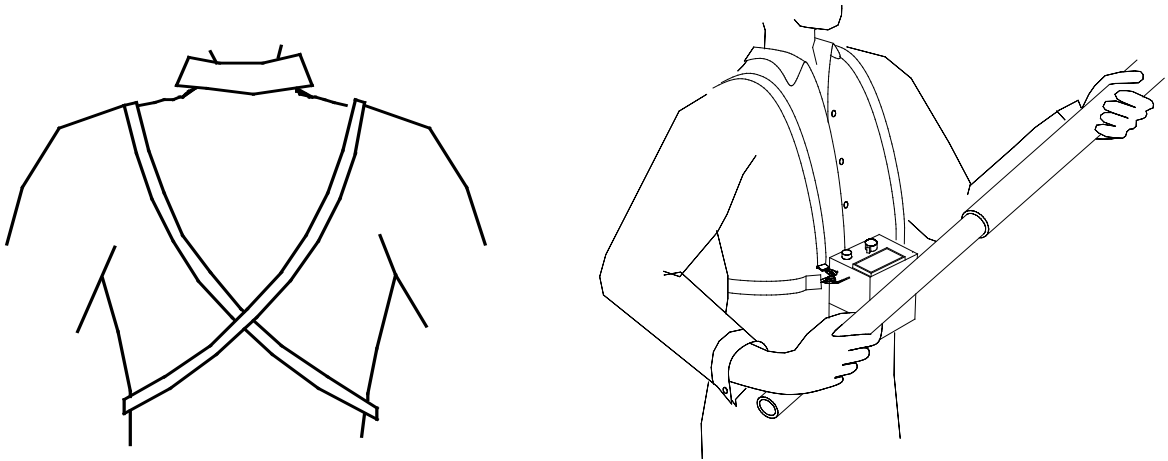

Figure 6.1
- a. Clip the carrying strap to the meter. One strap or both straps may be used. Figure 6.1 illustrates how both are used to provide the most comfort and least fatigue.